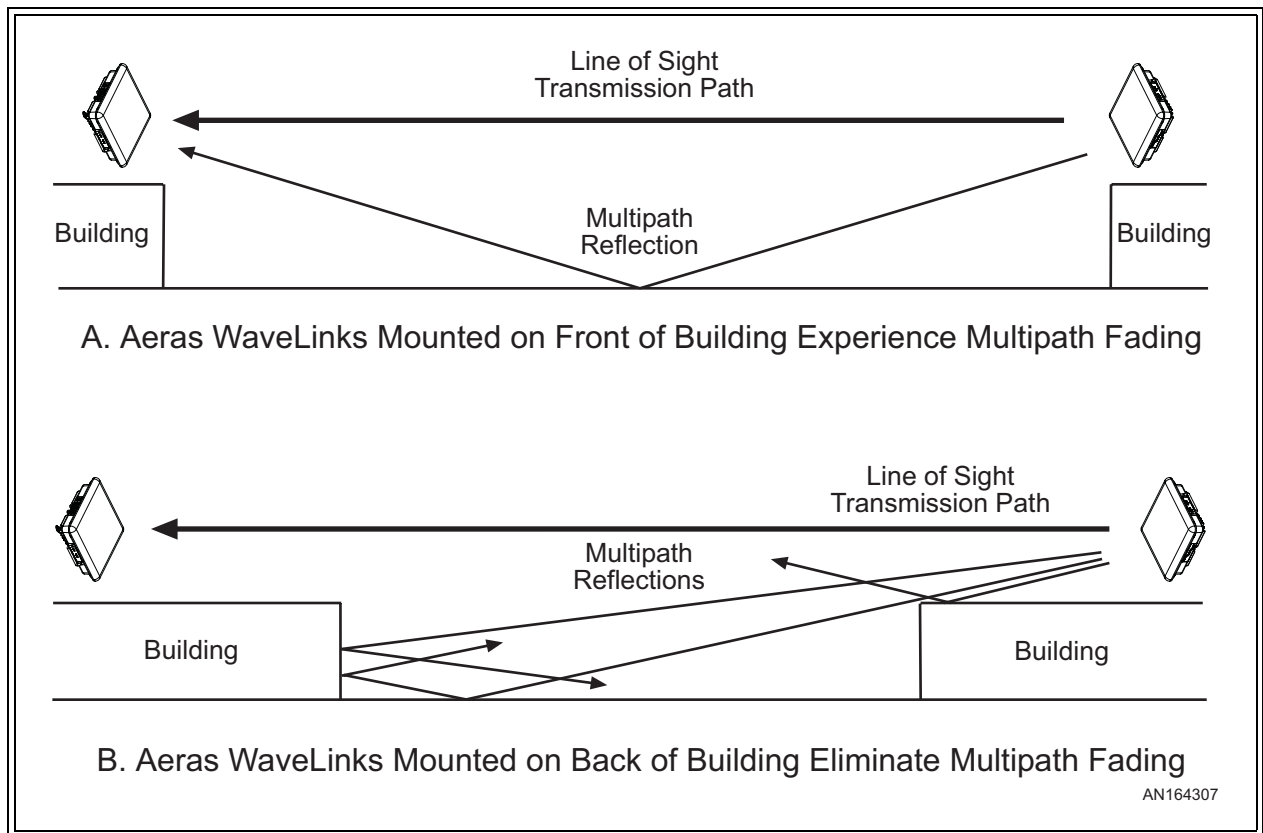

Figure 3-2 Preventing Multipath Fading from Ground-Level Surfaces
- **Multipath Fading:** See Figure 3-2. Because a Aeras WaveLink terminal typically transmits its strongest signals in a cone-shaped pattern, some of the signal may be reflected from a nearby building, from water under the signal path, or from other RF reflectors. This reflected signal can then be received by the far-end Aeras WaveLink and superimposed on the main signal, usually degrading the signal strength. To avoid multipath fading, Aeras Networks recommends that you install the Aeras WaveLink antenna on the back, rather than the front, of buildings to avoid multipath fading from water or other ground-level surfaces, and that you plan radio links away from nearby buildings.